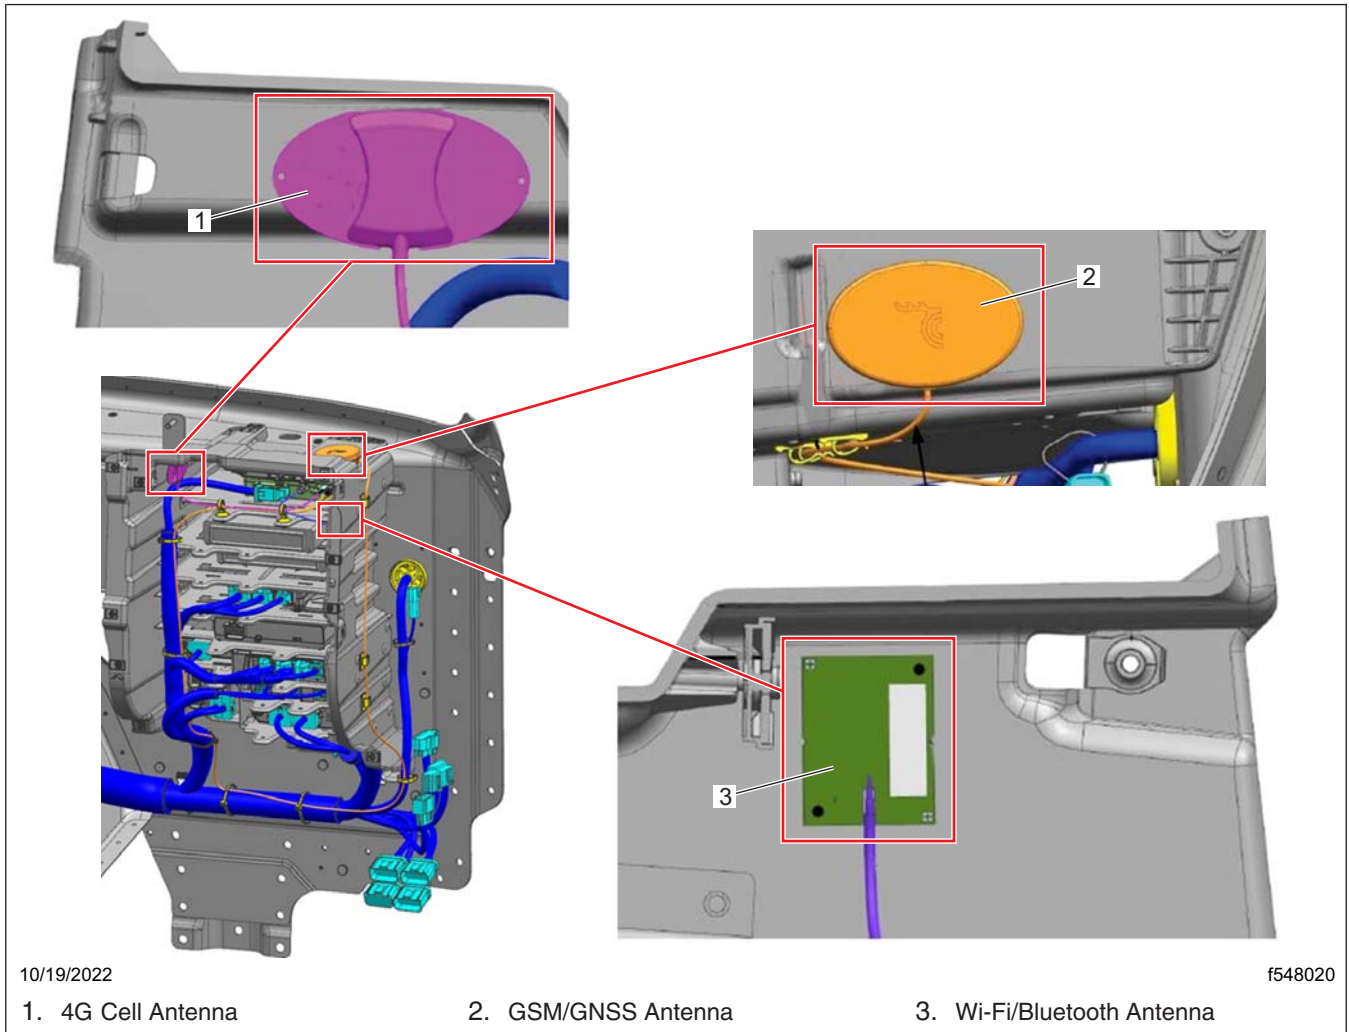

Fig. 37, Antenna Mounting
7.1 SF672 A → Identify and replace the antenna(s) listed in **Table 3**. Route the cable for each of the antenna using **Fig. 36** as a reference. Mounting locations for each antenna being replaced is identified in **Fig. 37**. Before installation, clean the antenna mounting area using isopropyl alcohol. Make sure the mounting surface is completely dry before using the included adhesive foam tape.